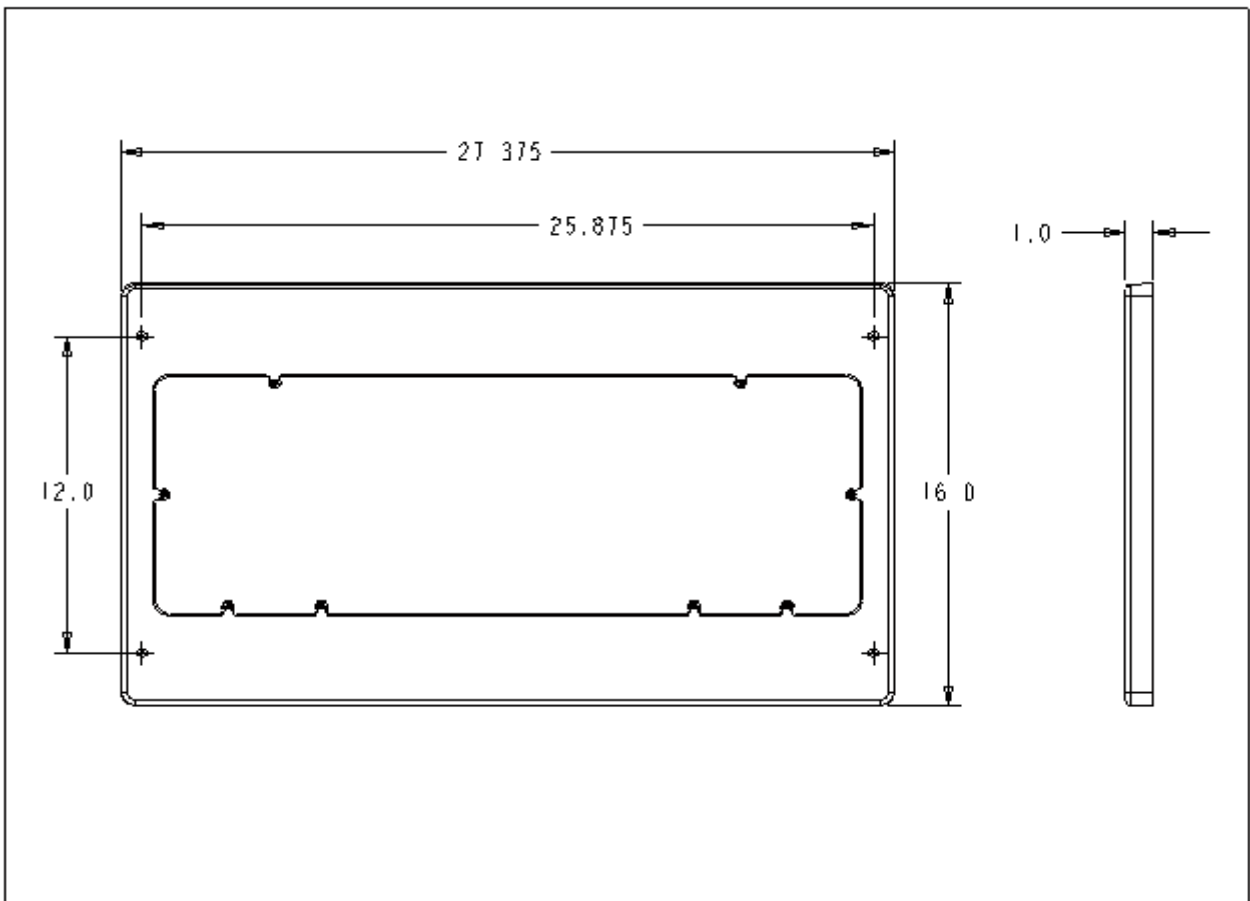

Figure 9, 6-Module, Universal Retrofit Panel
3.3.1.2 The second universal wall plate (Figure 9) is 27.375 inches long, 16 inches tall, and is used to adapt the 6-module Front Panel to the 6-module Universal Wall Plate.